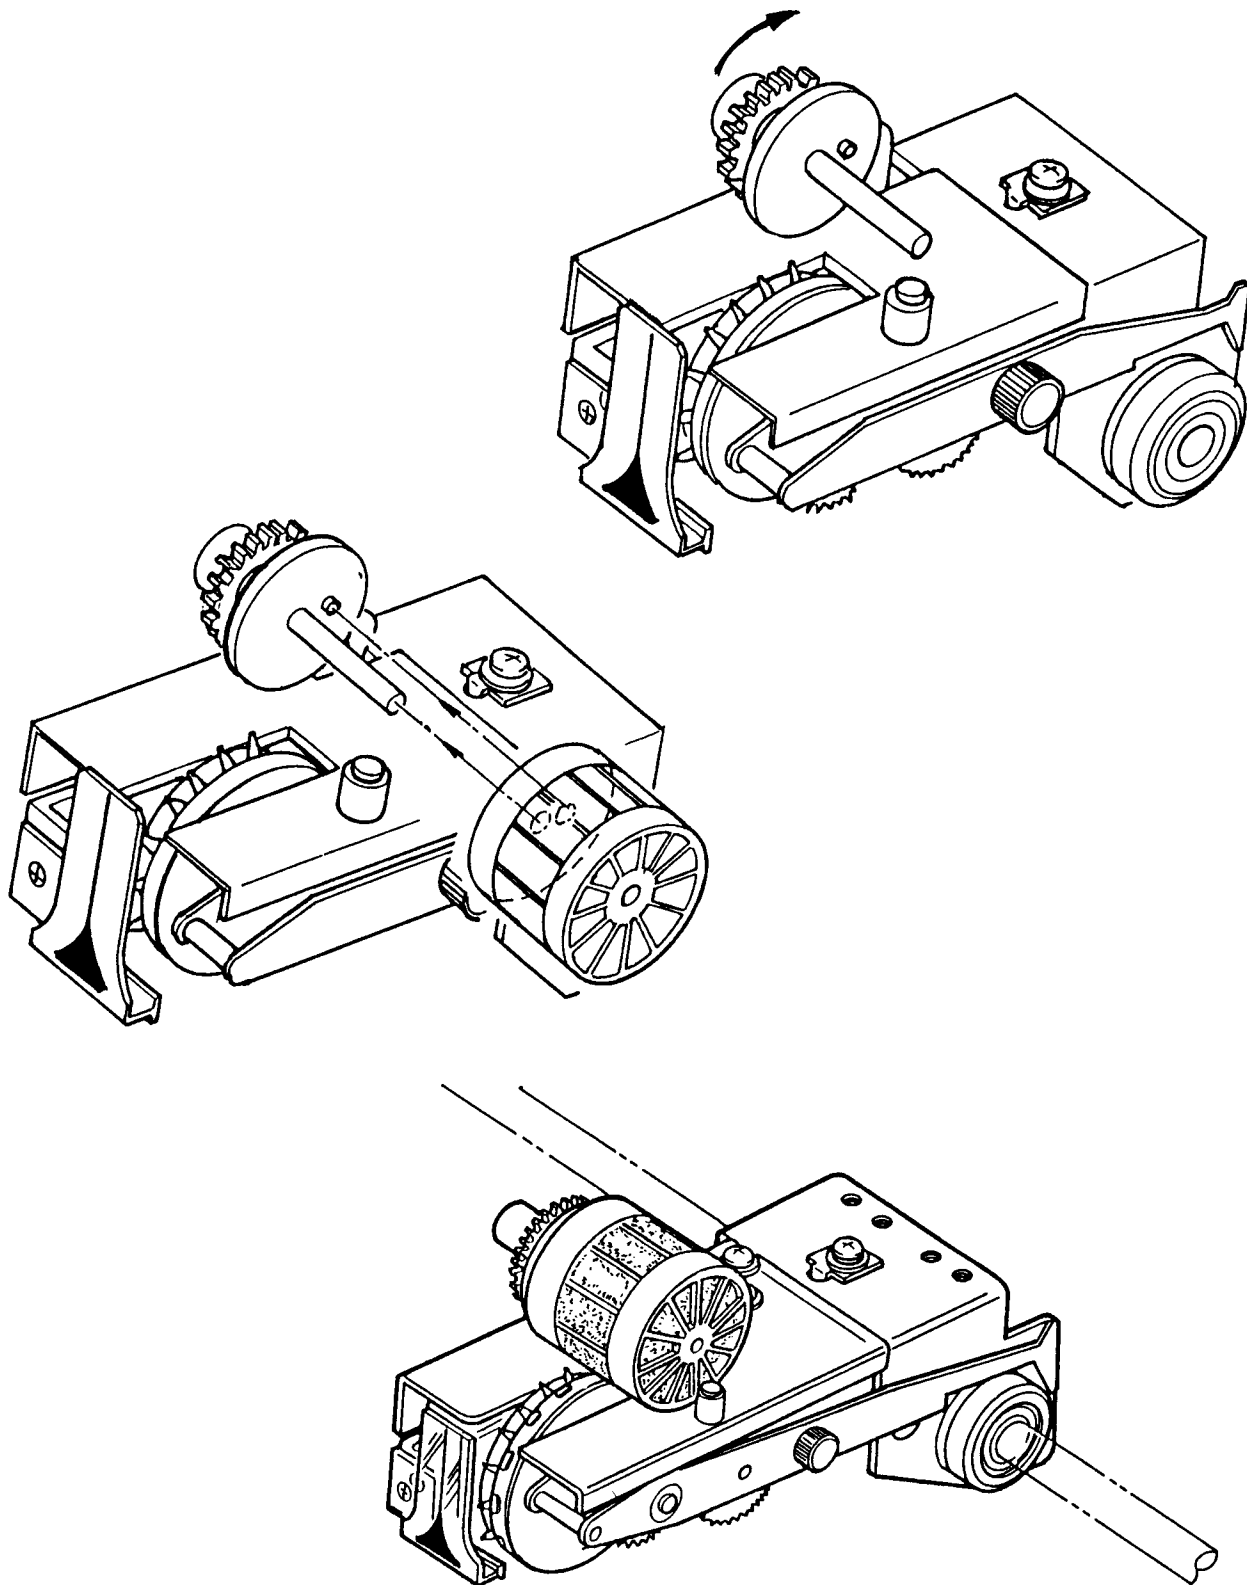

Figure 2-4. Installing Ink Pad Case Into RD250 24 Channel Multipoint Recorder
- 3b. (For 24 channel): Lift ink pad shaft and insert the pad case from the side, so that the ink pad shaft pin is inserted into the groove of pad case. (See Figure 2-4).